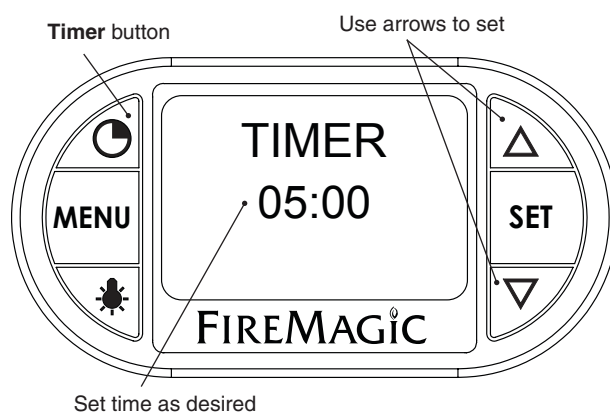

Fig. 29-4 Timer screen
1. Press the timer button. Use the arrows to set the desired amount of time (see Fig. 29-4.)